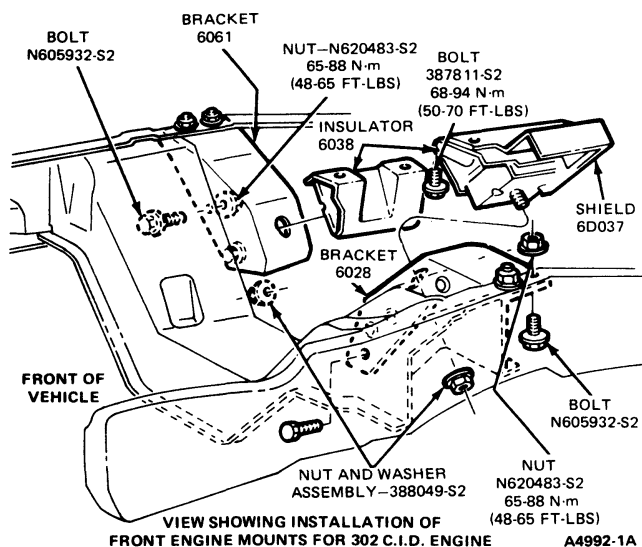

FIG. 9 Engine Front Supports—F-100, F-250—Bronco
4. Remove the bolts and lock washers attaching the support insulator to the cylinder block (Fig. 9) and remove the insulator and heat shield; left side only.
2. Carefully lower the engine, guiding the support insulator stud into the support bracket (Fig. 9). Tighten the insulator-to-engine bolts to specifications.